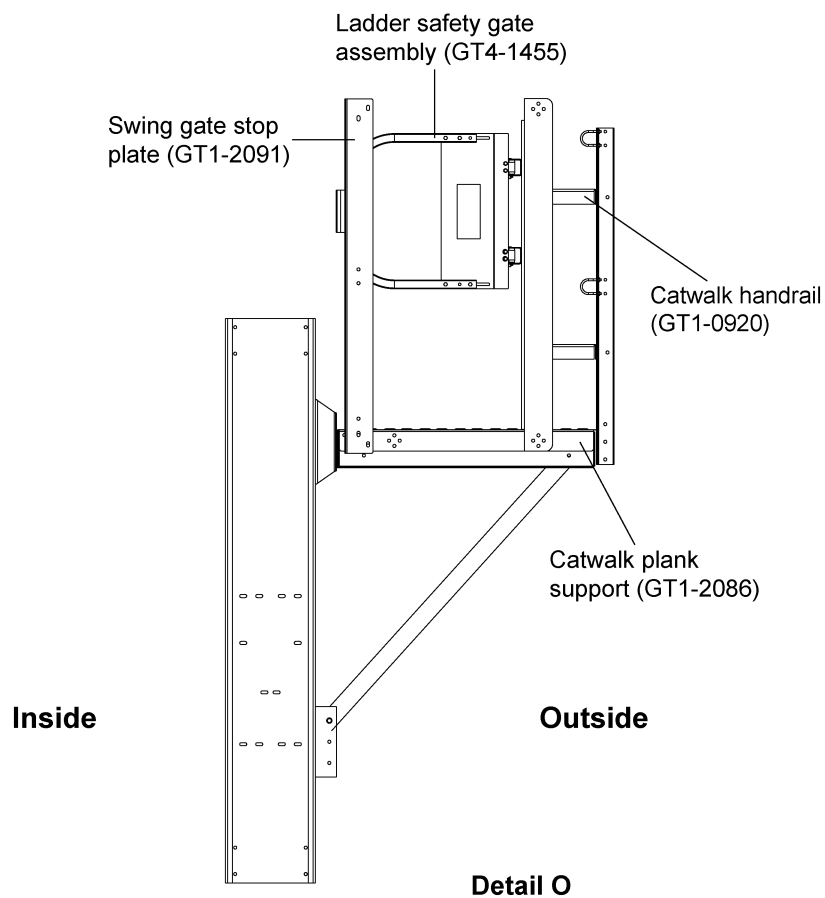

**Figure 6Y** Offset Ladder Safety Gate Assembly to Swing Gate Support (GT1-2087)
2. Install two (2) catwalk handrails (GT1-0920) between the swing gate support (GT1-2087) and catwalk vertical support (GT1-2037-BS). *(See Figure 6X below and Figure 6Y on Page 61.)*
3. Install the ladder safety gate assembly (GT4-1455) to the swing gate support (GT1-2087) using 3/8"-16 x 1" JS grade 8 or grade 8.2 bolts (S-7485) and 3/8"-16 ZN grade 5 nuts (S-968). The distance between the plank and handrail is 42". (See Figure 6Y.)